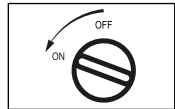

Fig. 4
5. Turn the rotary switch anti-clockwise until you hear a click, which indicates that a spark has been generated [Fig. 4].